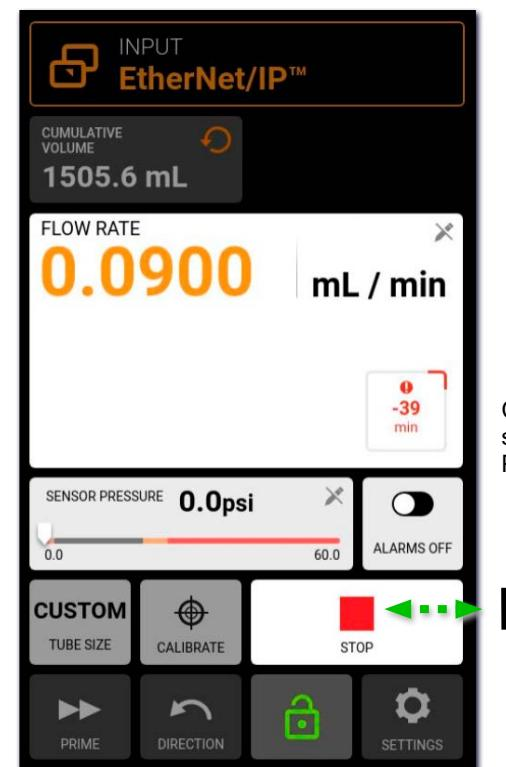

Figure 53
- In Continuous mode of operation, a flow rate of zero will enable a Pause state (no visible display on the touchscreen; see Figure 53 next page); this allows for an ability to stop and restart the drive without changing the entered start and stop values.